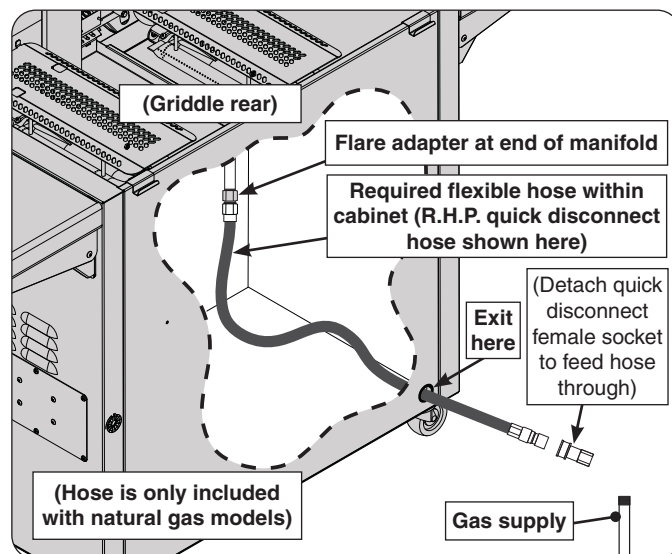

Fig. 17-1 Flexible hose assembly detail
2. **Household propane only:** A regulator hose assembly designed for L.P. cylinders comes pre-installed to the unit valve manifold. First remove this assembly from the flare adapter (at end of manifold), and then install a quick disconnect hose or similar (purchased separately) to the adapter. (An R.H.P. quick disconnect hose is recommended - see third bullet above.) Use a pipe joint compound resistant to all gasses on all NPT pipe fittings **except flare fittings**. Reference Fig. 17-1. Then proceed to step 3.
3. Route the quick disconnect hose (or similar) out of the hole in the **rear bottom right** of the cabinet, and to the gas supply (see Fig. 17-1).